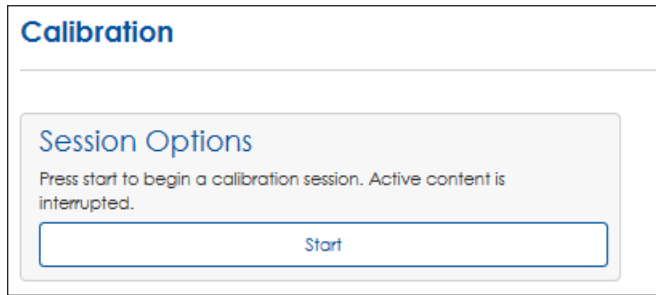

Figure 98: Calibration Session Options
1. Click **Start**. A **Session Options** window opens. Refer to **Figure 98**.